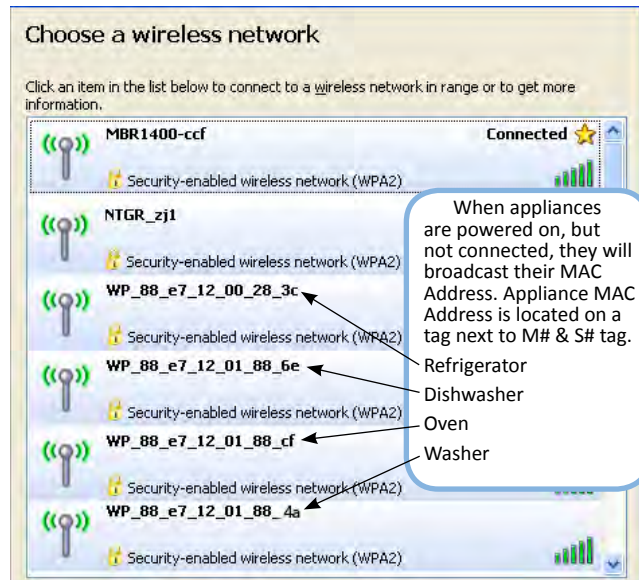

Figure 10 - Available Wireless Networks (example)
1. On the (laptop, tablet, or smartphone), have the consumer access their “Wireless Network Connection” screen, and view the list of available wireless networks (see figure 10). **NOTE:** The wireless network window may vary depending on program or OS.